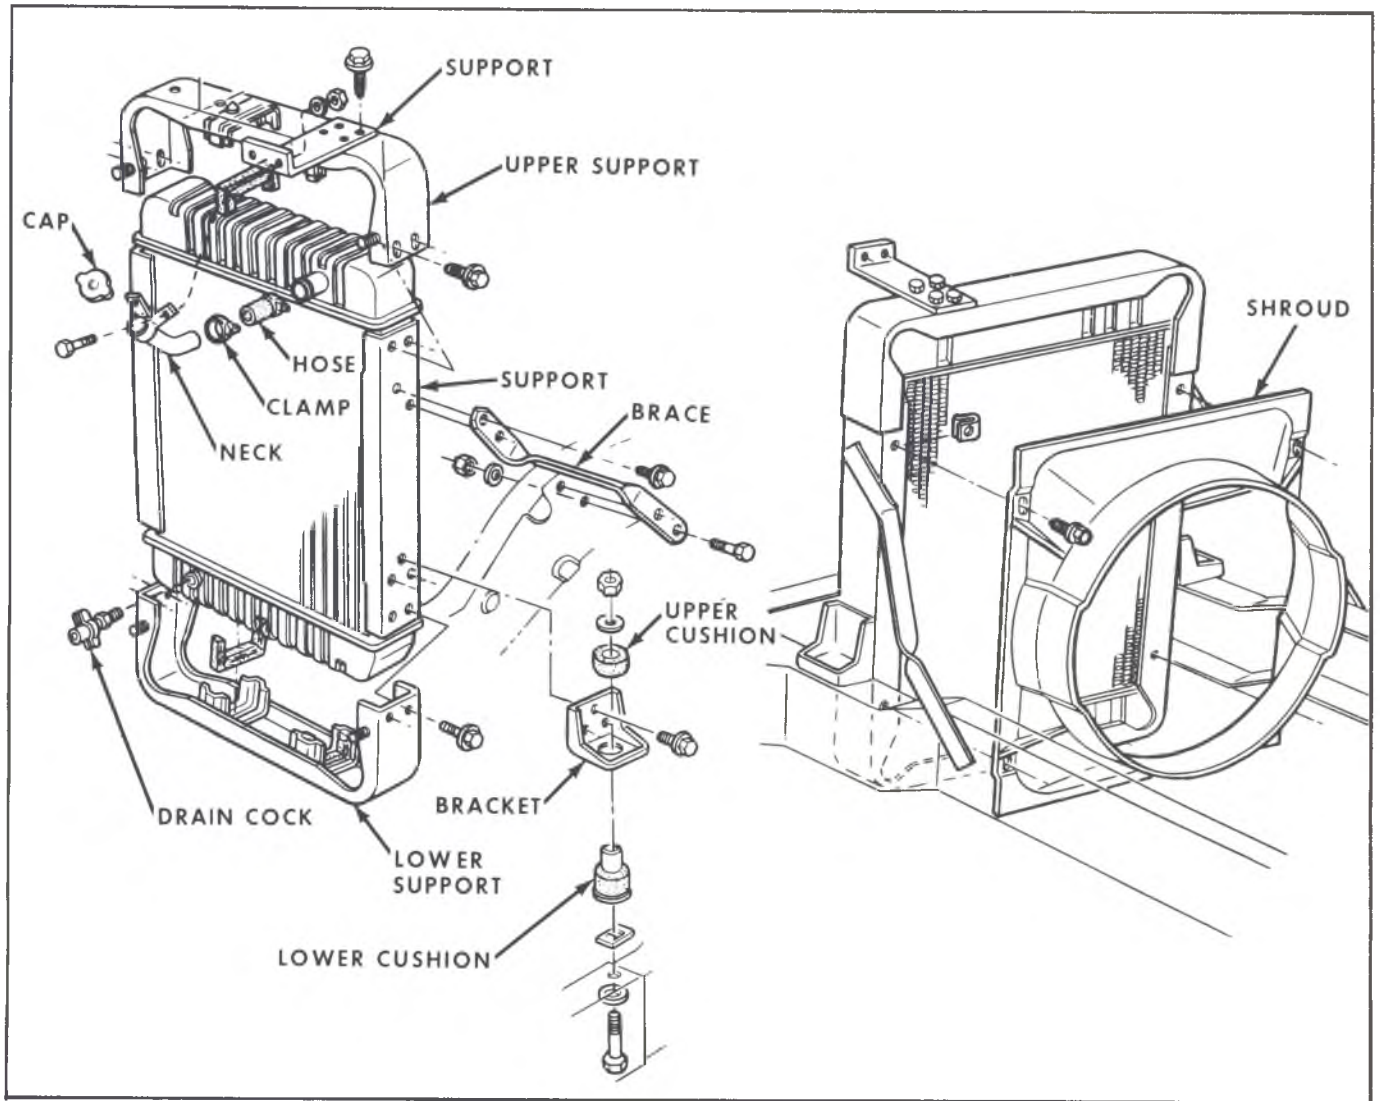

Fig. 2—Radiator and Fan Shroud—P30 (32)
### (P30 (32) Chassis) (Fig. 2)